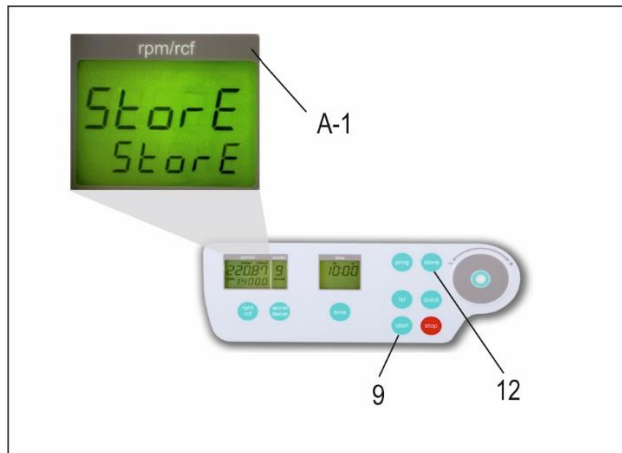

Figure 6
- All changed settings must be confirmed by the key "store" (12) or "start" (9). A confirmation screen will appear with the word, "store", in the display "rpm/rcf" (A-1), - Only then the pre-selections are valid (see Figure 6).